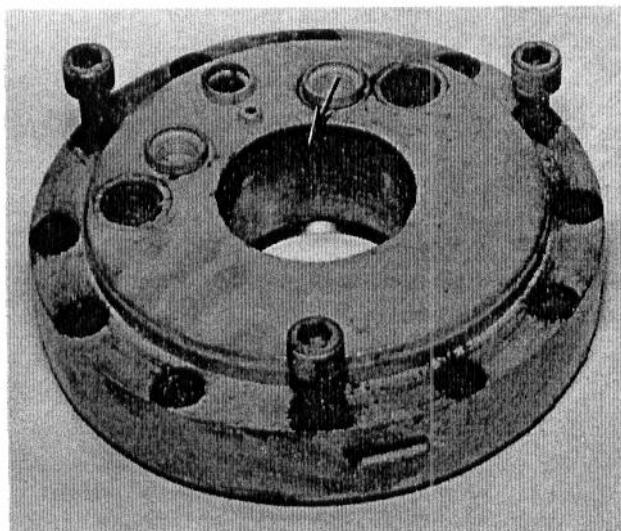

Fig. 31 — Shaft Seal Groove in Top Plate
a. Remove outer shaft seal from groove, see Fig. 31.